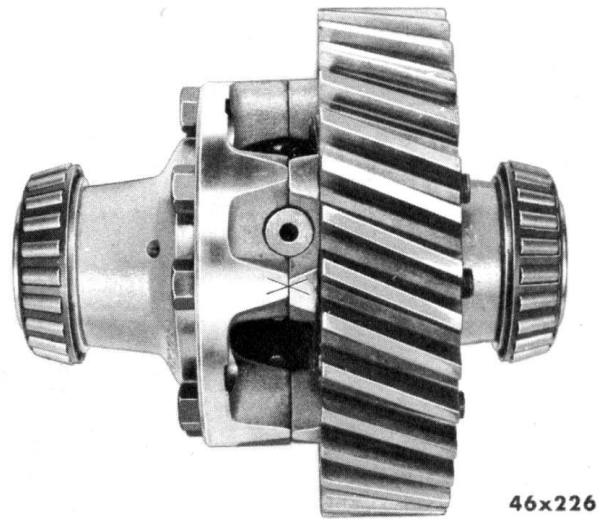

Fig. 115—Differential Drive Gear (Removed)
- (1) Place carrier in a suitable holding fixture.
- (2) Cut lock wire. Remove cap screw and adjusting nut locks.
- (3) Center punch one differential carrier leg and bearing cap to identify for proper re-assembly.
- (4) Remove bearing cap stud nuts, bearing caps and adjusting nuts.
- (5) Lift out differential drive gear assembly (Fig. 115).